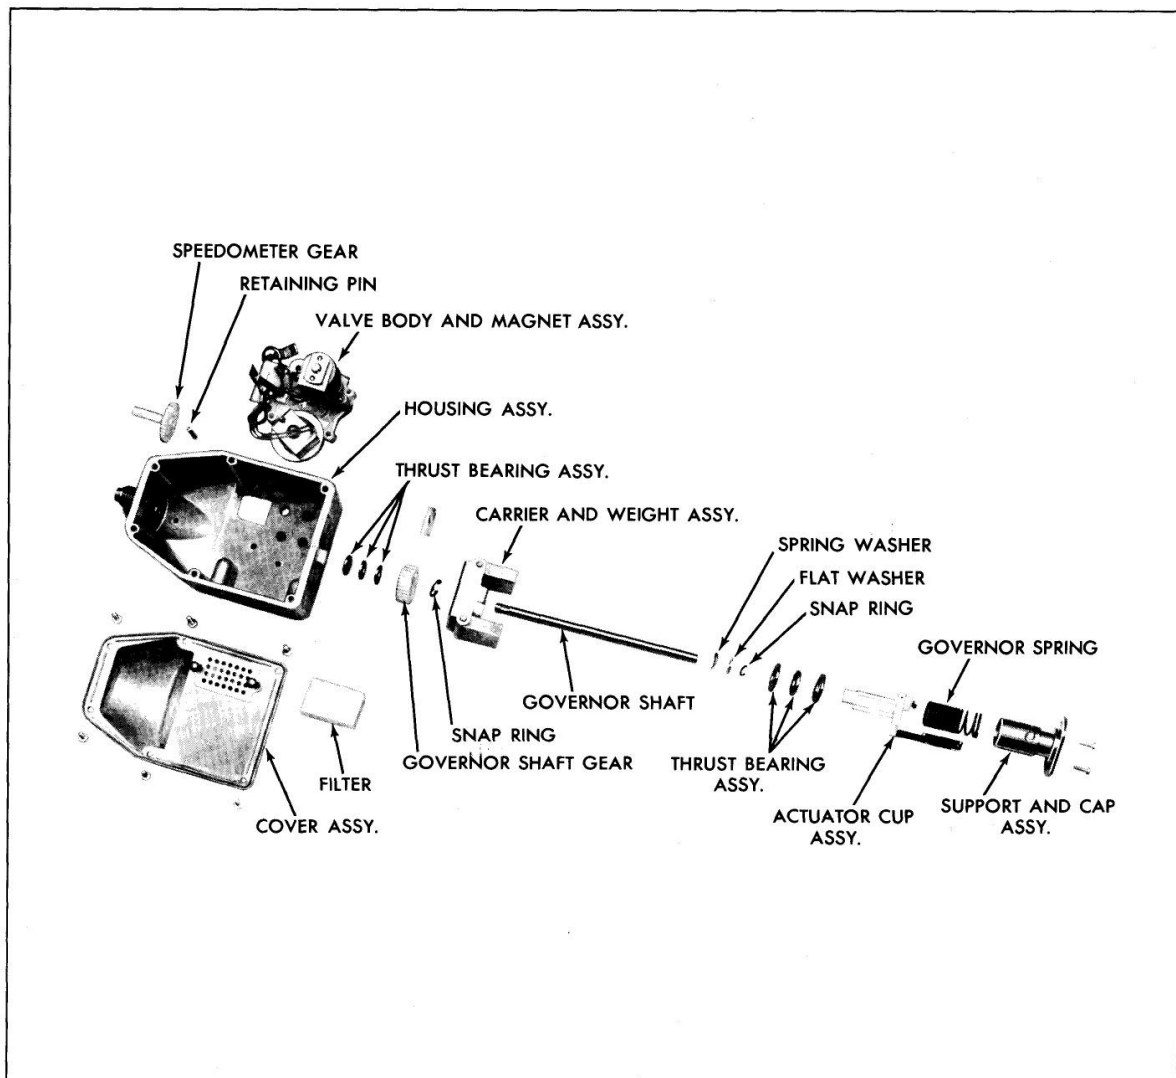

Fig. 15-12 Regulator - Exploded View
REGULATOR - DISASSEMBLE (Fig. 15-12)
5. Slide the governor assembly away from the speedometer drive adapter end until the shaft is free of bearing. This will allow the governor assembly to be removed from the regulator. For further disassembly of governor, see Fig. 15-12.